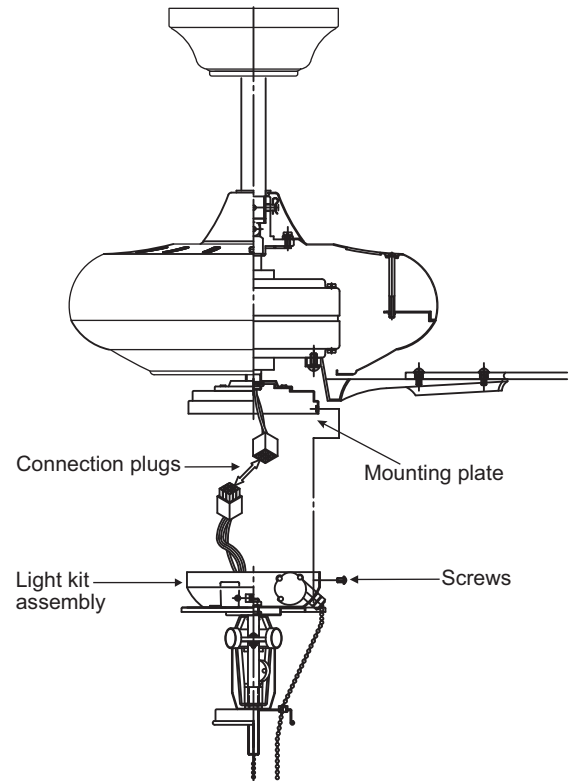

Figure 19
Step 2. While holding the light kit under your fan, snap together the wire connection plug. (Fig. 19)
Step 3. Install the light kit onto the mounting plate with 3 screws provided. Be sure to tighten all screws. (Fig. 19)